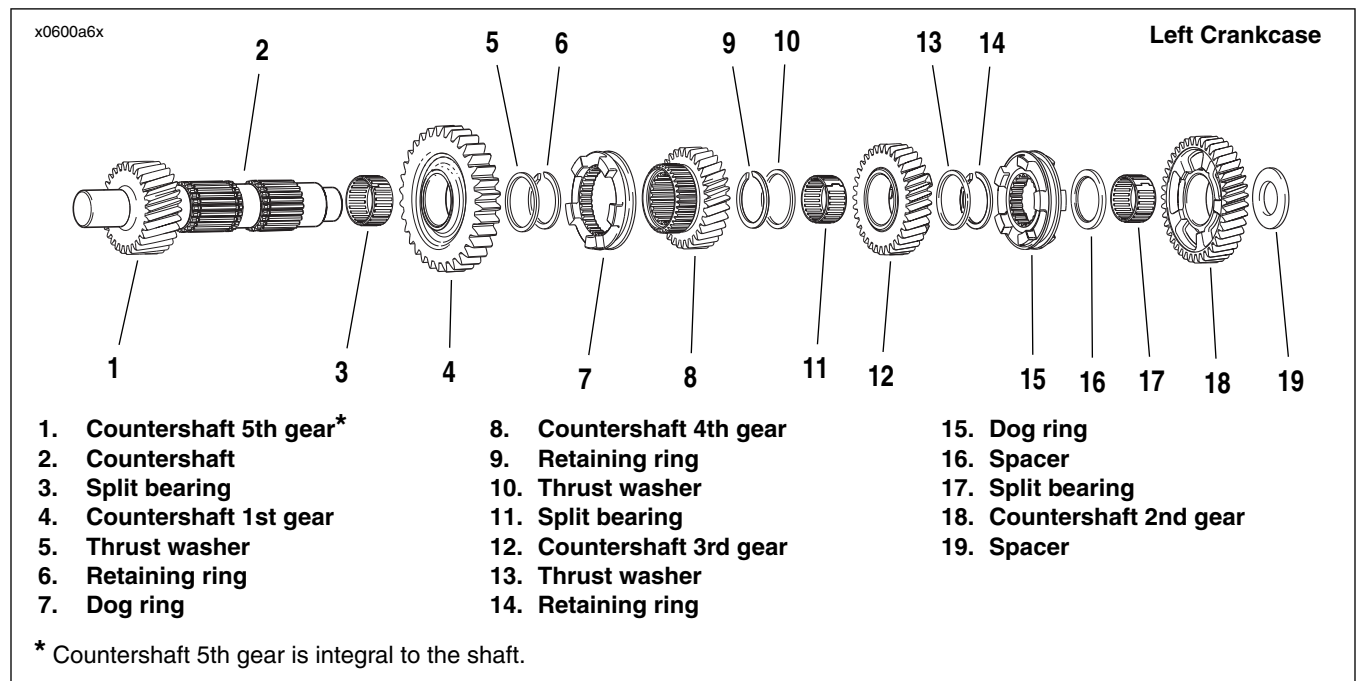

Figure 6-62. Transmission Countershaft Assembly Once Removed from Left Crankcase/Disassembly
- See Figure 6-62. Remove spacer (19) and 2nd gear (18) from the end of the of the countershaft (2). Remove and discard split bearing (17).
- Remove spacer (16).